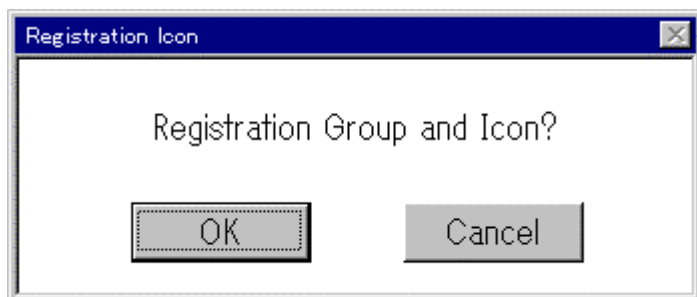
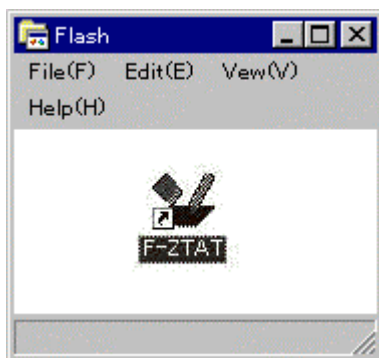

Figure 3.3 Installation Start Message
Figure 3.4 F-ZTAT Icon
5. After the software has been copied to the directory, the message shown in figure 3.3 is displayed on the screen. Click OK to register the FLASH group and the icon for this software in the program manager, and end the installation process. The registered icon is shown in figure 3.4. You can also click Cancel to abort the installation process.